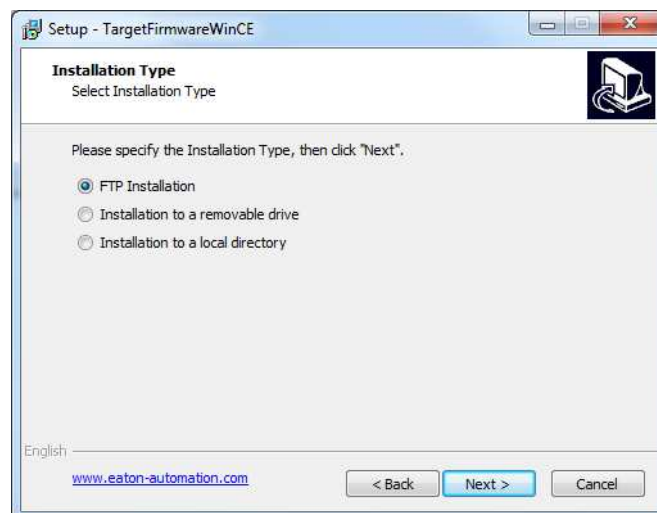

Figure 28: "FTP installation" window
The update process when using removable media or a local directory (→ Figure 28, page 45) is similar to that for FTP installation.
- ▶ Go to the "Setup - TargetFirmwareWinCE" (→ fig. 28) window and select "Install using removable media".